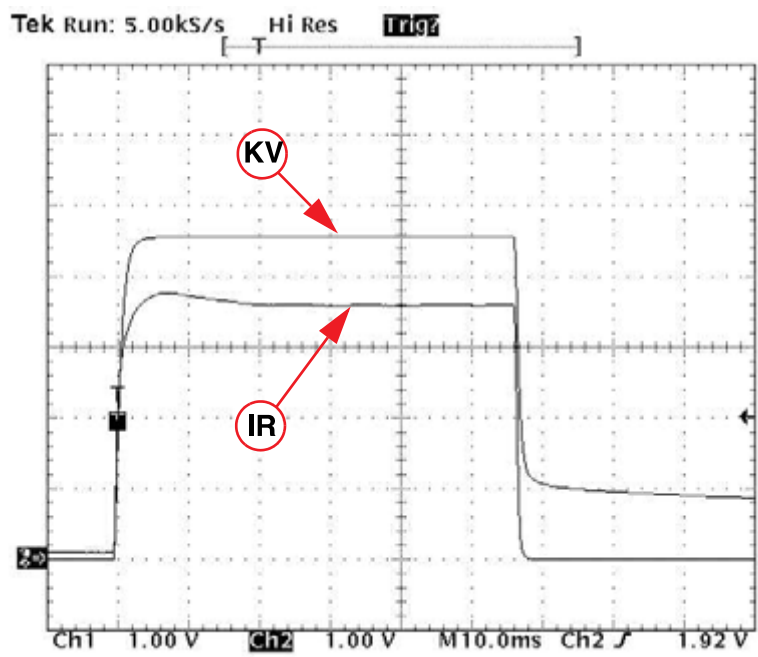

Fig. 21: *kV_Itube*
- Set 90 kV and 10 mAs at the POLYMOBIL Plus and release an exposure. The oscillogram should correspond to what is shown here: (Fig. 21 / p. 74).